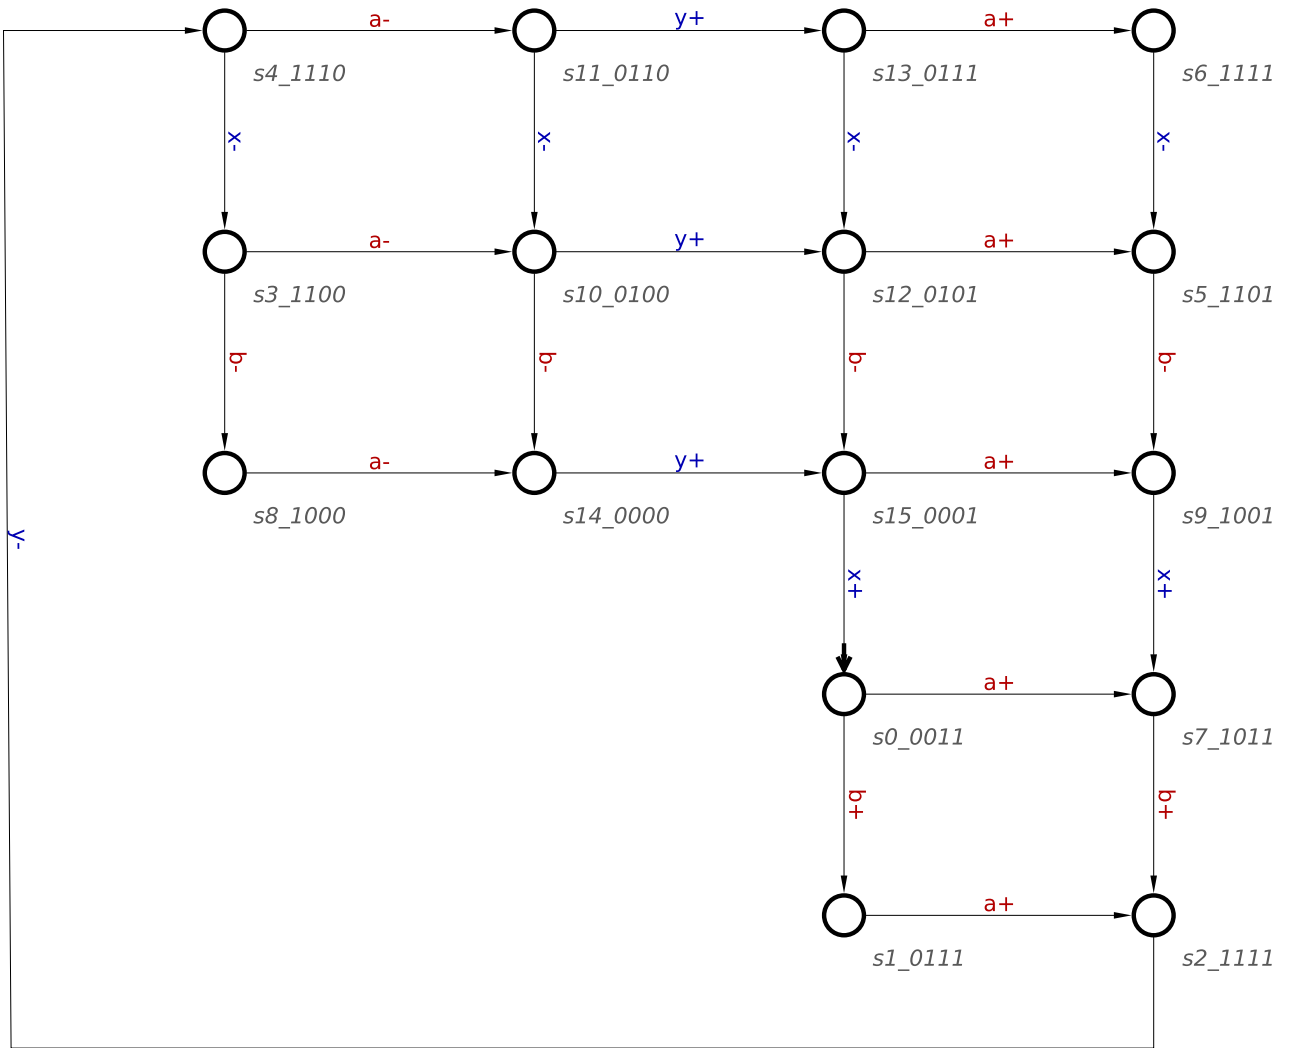

Figure 11: State Graph
- iv) Resolve the CSC conflict by introducing a new internal state variable called csc into the STG. Draw the resulting STG and show how this changes the state graph (use the template in Figure 11 for that purpose, use the free space above the stage graph to draw the STG). Don't forget to also change the state labels (specify the new variable order you used)!